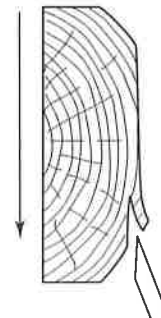

Fig. 19-2
- _____ 8. Fig. 19-2 shows the ___ method of cutting veneer.